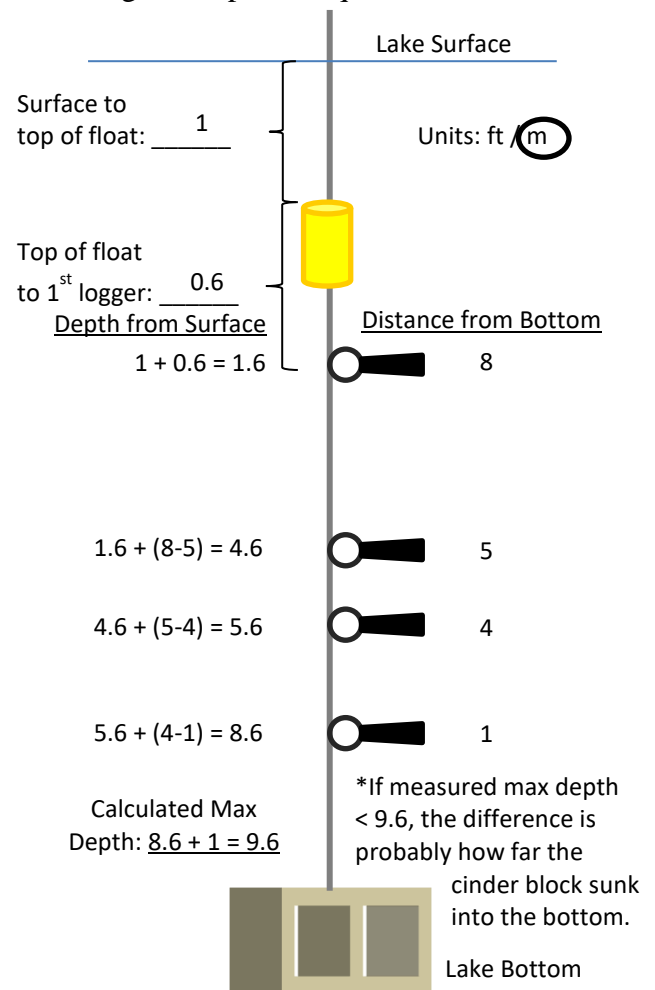

Figure 10. Example calculations to determine depth from surface of each logger. Diagram from page 1 of field data sheet.
13. Using the diagram on page 1 of the data sheet, calculate the depth from surface for each data logger (e.g., Fig. 10). The depth of the first logger beneath the fishing float is the sum of the distance from the logger to the top of the fishing float and the distance from the top of the fishing float to the surface. Then use the depth from